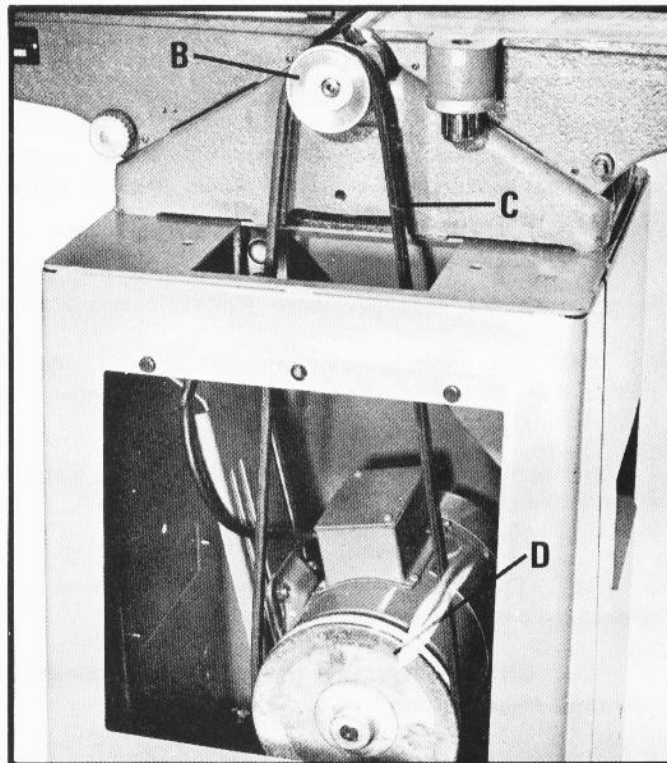

Fig. 4
Assemble the belt (C) to the cutterhead pulley (B) and motor pulley (D) as shown in Fig. 4. If necessary loosen the nuts and bolts that fasten the motor to the motor plate and move the motor up or down on the motor plate until correct belt tension is obtained. Correct tension is obtained when there is approximately 1" deflection in the center span of the belt using light finger pressure. Using a straight edge, align the motor pulley to the cutterhead pulley. If necessary both pulleys can be moved in or out on the shafts or the complete motor plate assembly can be moved in or out to bring the pulleys into alignment.